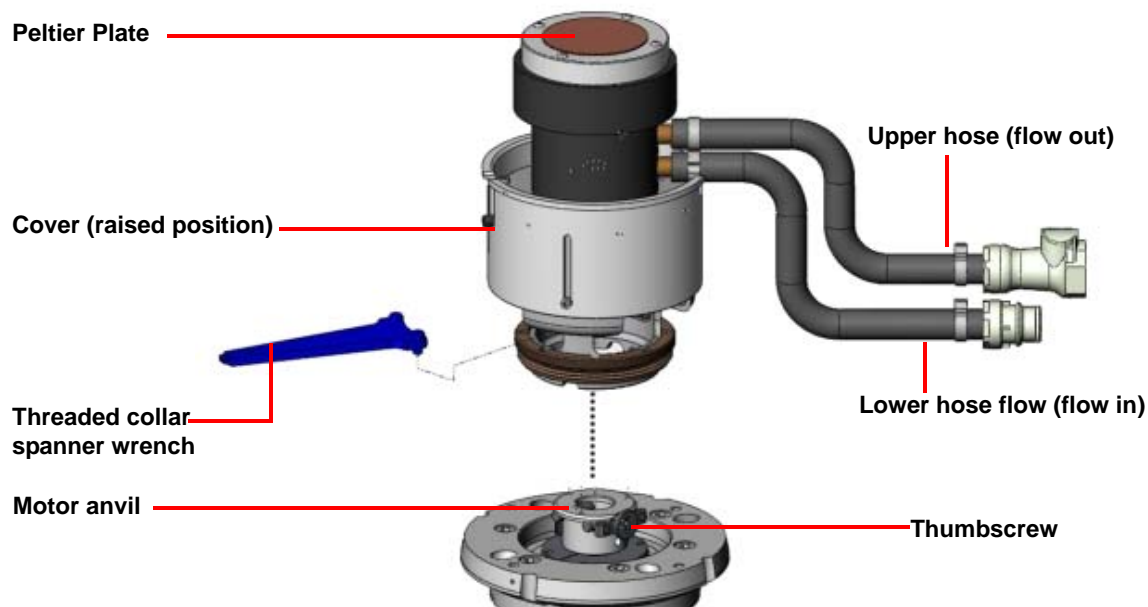

Figure 2 Overview of Peltier Plate assembly and installation
Refer to Figure 2 for an illustrated parts and assembly breakdown.
- 2 Loosen the safety locking screw (located beneath the lower hose clamp on the Peltier Plate cover, shown in Figure 2), raise the cover, and then tighten the safety locking screw to lock it into position.